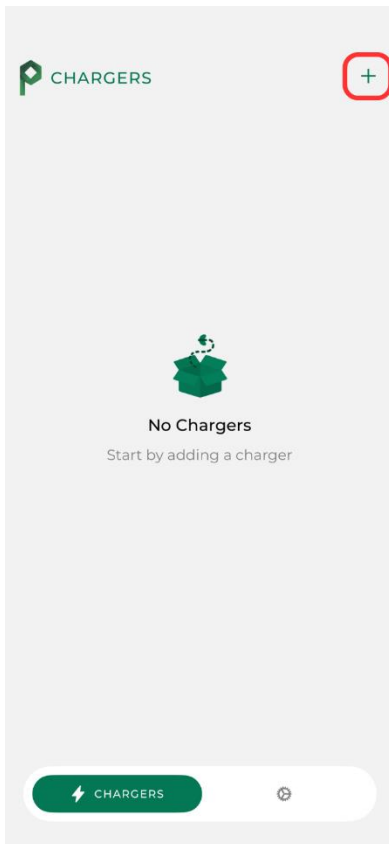

Figure 1
3. To add a new charger, ensure your smartphone is within Bluetooth range of the unit, then tap the “+” icon in the top-right corner of the screen. (See [Figure 1])